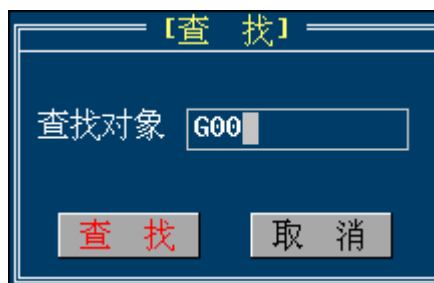

Figure 4-5 Input Box For Finding
- 1) Press the system menu [PFND] in the full screen for editing, it will pop up a input box as figure 4-5 shown.